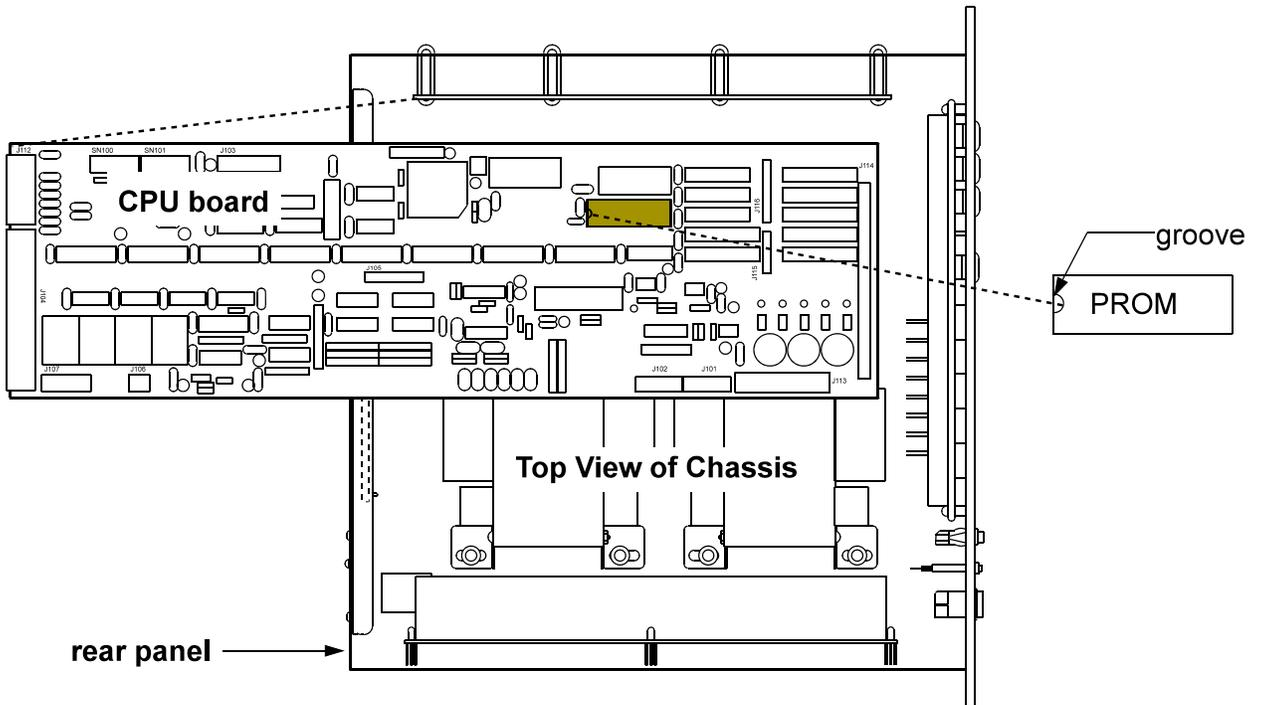

Figure IV-5. CPU Board — Location of PROM.
The CPU board, located inside the DIGITEL MPC chassis, houses the PROM (Programmable Read Only Memory), which contains the programmable commands for the DIGITEL MPC. Figure IV-5 shows the PROM's location.
6. Carefully insert the new PROM, making sure the small groove on the PROM (denoting pin 1) is positioned correctly. See Figure IV-5.